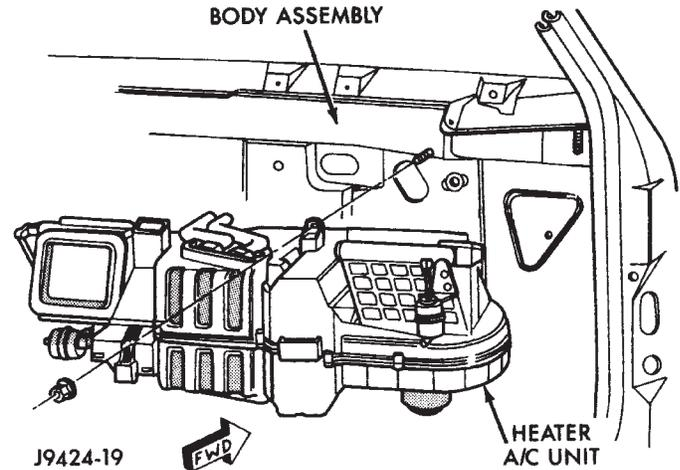

Fig. 50 Heater A/C Housing Remove/Install
(12) Unplug the heater-A/C housing wire harness connectors.
(13) Remove the heater-A/C housing mounting nuts from the studs on the passenger compartment side of the dash panel (Fig. 50).